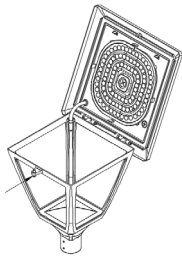

Fig.15
1. Loosen the screw to open the Light source module, as shown in Fig15.